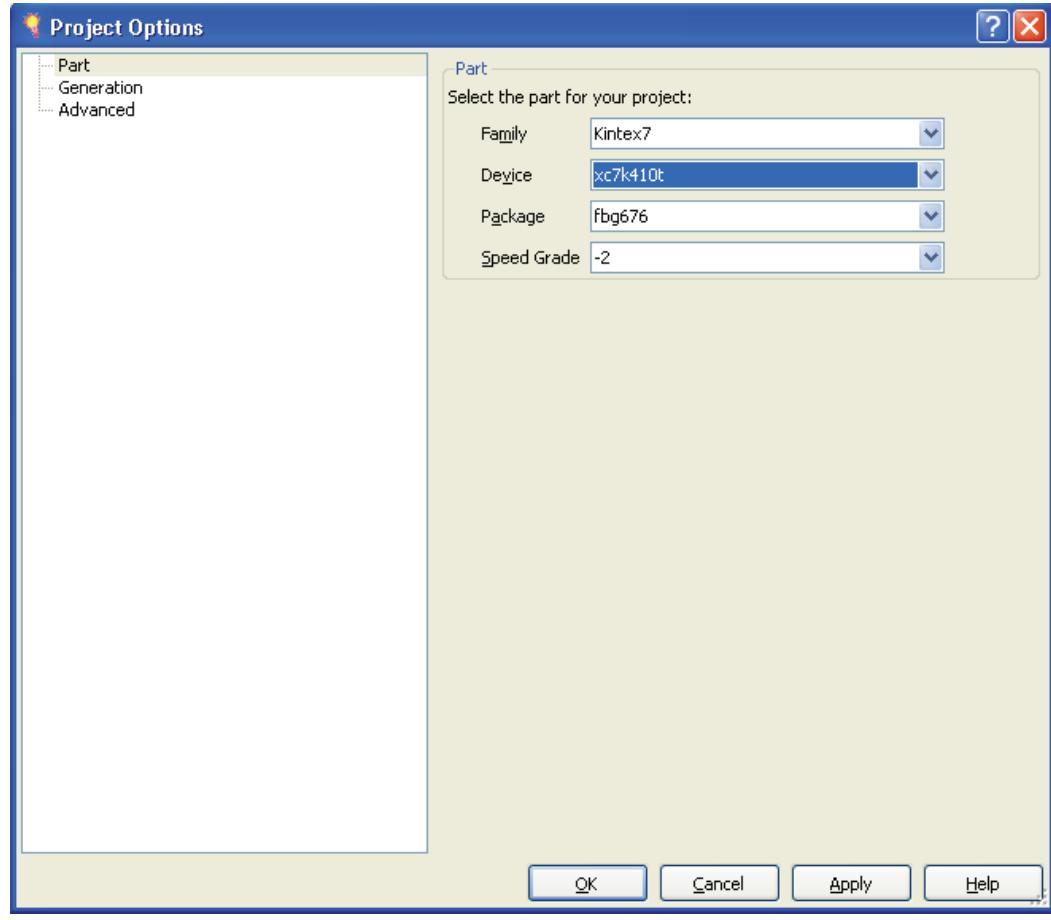

Figure 2-4: CORE Generator Tool Device Selection Page
4. Select these project options for the part (Figure 2-4):